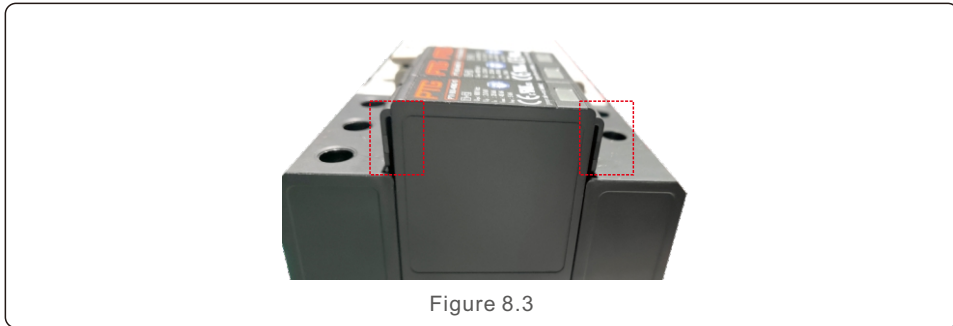

Figure 8.3
5. Press and hold the spring clip on the upper and lower sides of the damaged surge protection module and remove it.(See Figure 8.3)